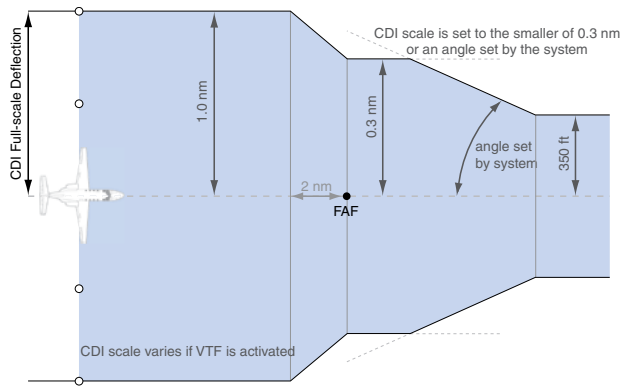

Figure 2-31 Typical LNAV and LNAV+V Approach CDI Scaling
- During **approach**, the CDI scale ramps down even further (see Figures 2-31 and 2-32). This transition normally occurs within 2.0 nm of the Final Approach Fix (FAF). The CDI switches to approach scaling automatically once the approach procedure is active or if Vectors-To-Final (VTF) are selected.